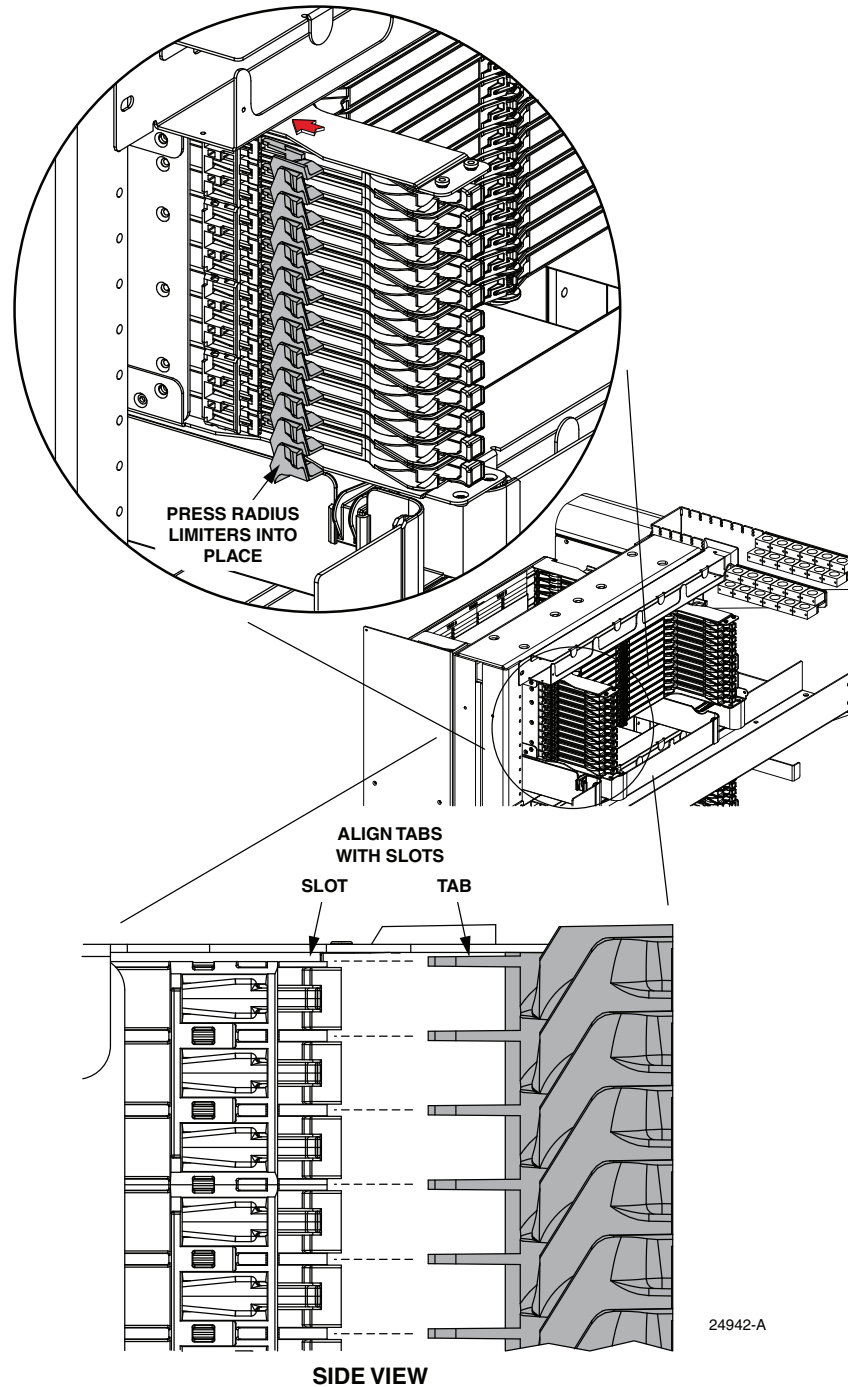

Figure 3. Installing Guide Strip On Universal Chassis
3. Install guide strips (provided) on front and rear of chassis. To install a strip, align the tabs on the strip with the slots on the chassis as shown in rear view in Figure 3, then press the radius limiters into place as shown. Repeat for all four locations.